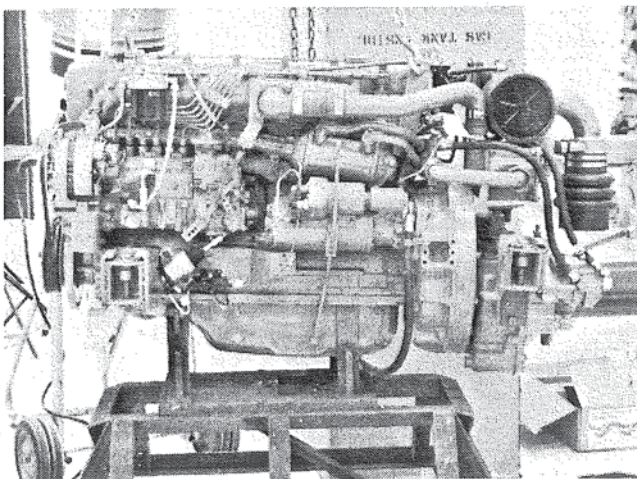

Figure 1. Engine Removed.
5. Place engine on a suitable stand. Figure 1.